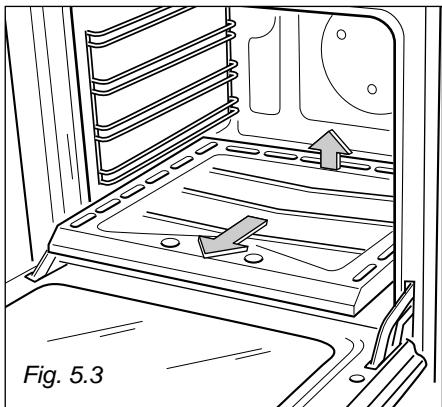

Fig. 5.3
- Lift and remove the oven floor (fig. 5.3)